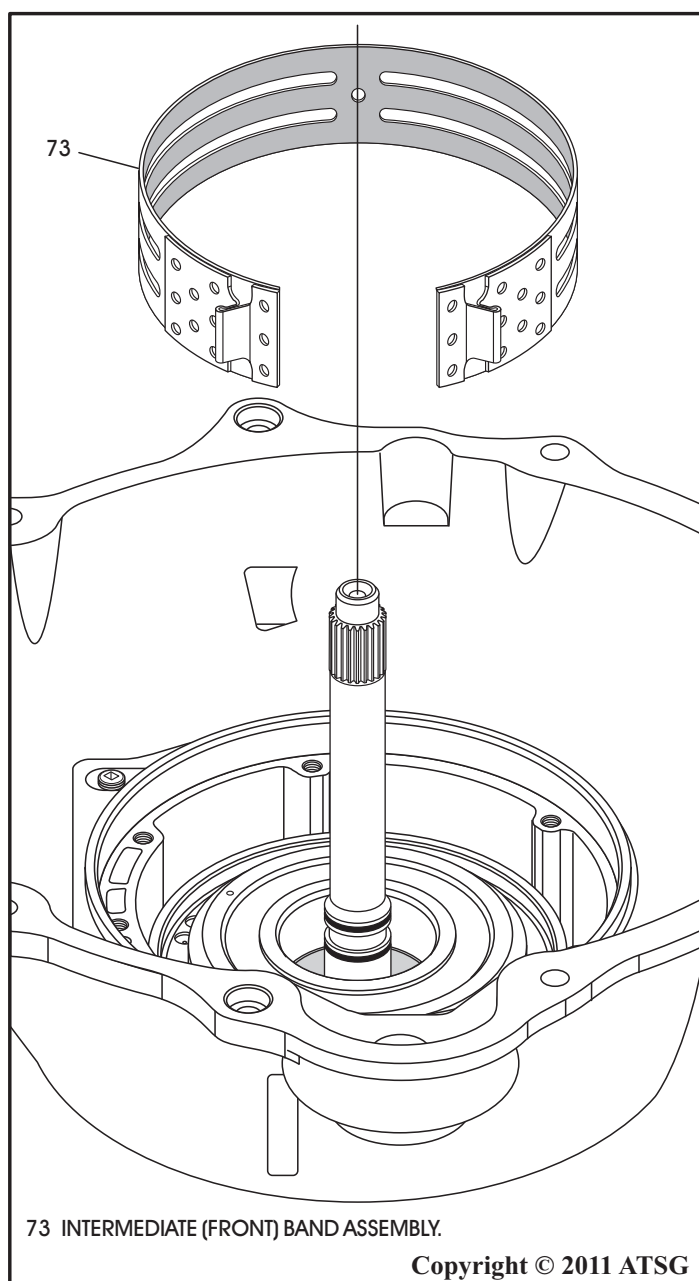

Figure 222
10. Install the intermediate (front) band assembly, as shown in Figure 222, and align with servo.